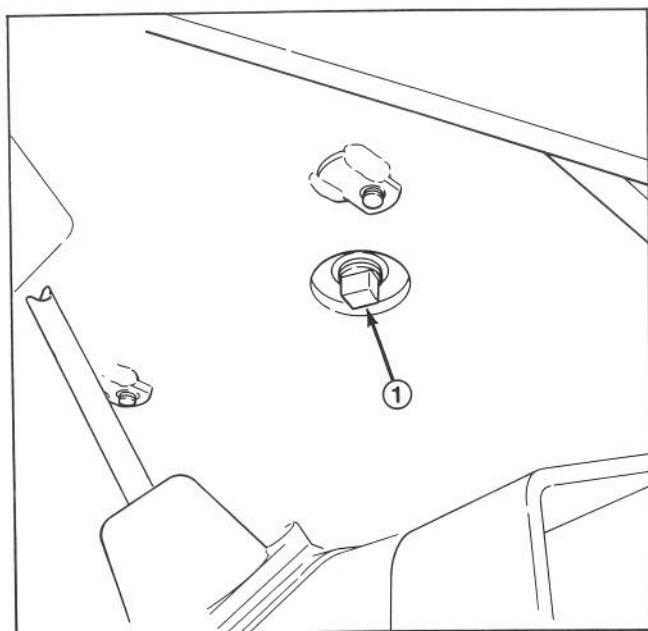

Figure 30
1. Place an oil drain pan below the drain plug on bottom of crankcase. Clean area around drain plug (Fig. 30).